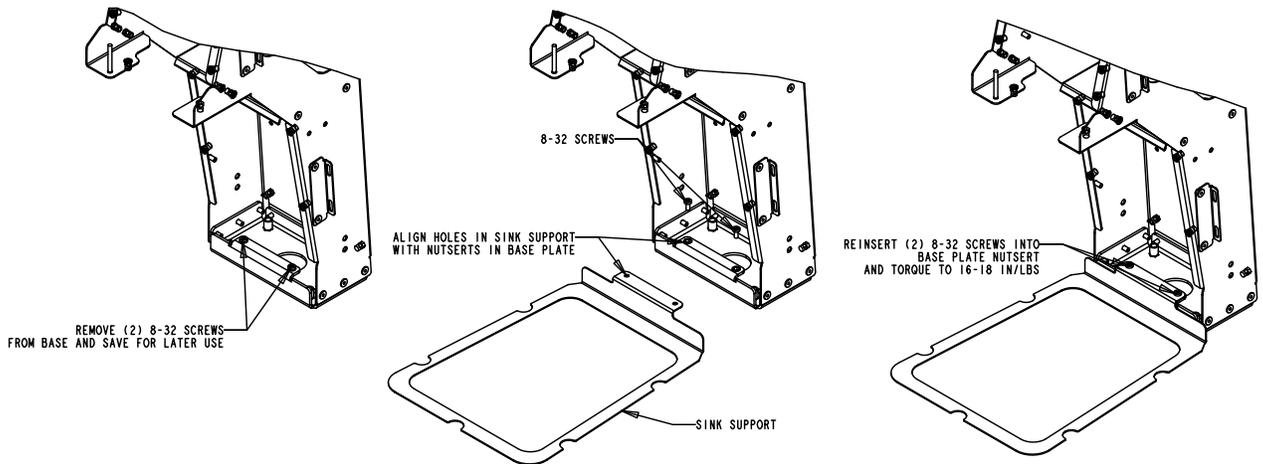

Figure 3
5. Attach the sink support. See Figure 3.